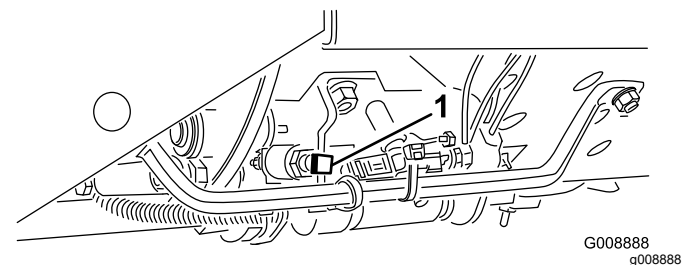

Figure 17
**Important:** The mow speed is set at the factory to 6 MPH (9.7 km/h). It can be increased or decreased by adjusting the speed stop screw (Figure 17).